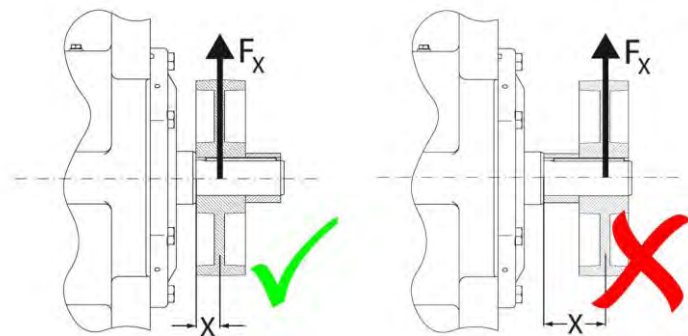

Fig. 33: Alignment: Left is right, right is wrong
12. To avoid excessive transverse forces, assemble gear wheels or sprockets in accordance with Fig. 33.